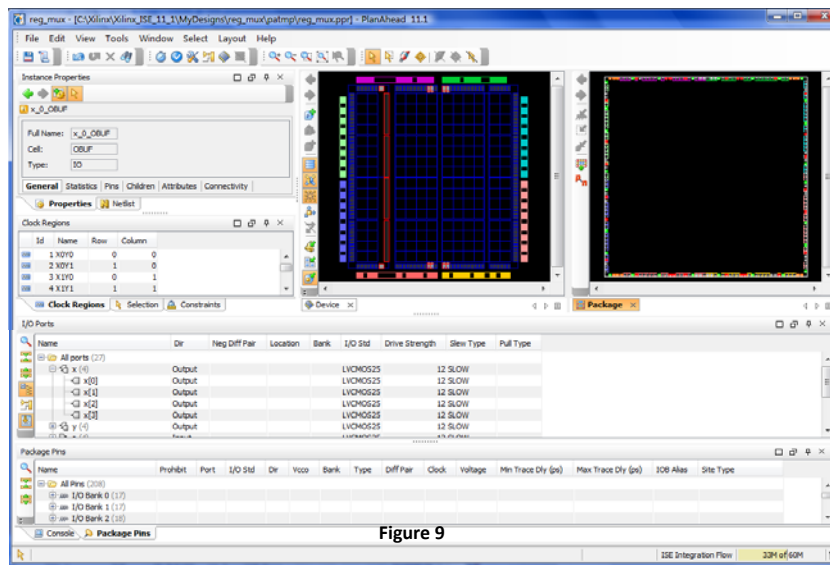

Figure 9
a) Start the PlanAhead component of ISE by selecting **Tools > PlanAhead > I/O Pin Planning (PlanAhead) Post-Synthesis**, which opens the PlanAhead navigator of figure 9.
c) In the I/O Ports window of the PlanAhead navigator (figure 9), click any port name and observe that it is highlighted in both the Device and the Package floorplan windows.